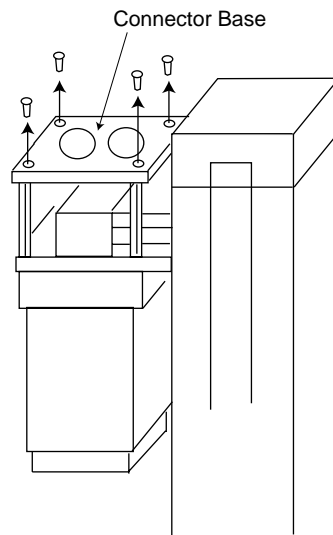

Figure B-2. Connector Base Removal
2. Remove the four screws on the connector base and remove the connector base (see Figure B-2).